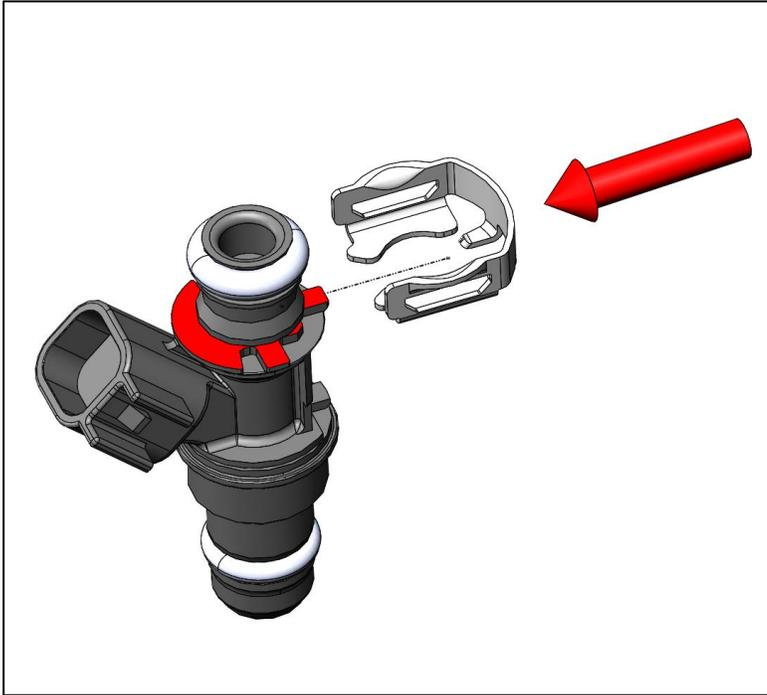

Figure 2
14. Insert the retaining clips removed in step 9 into the grooves on each injector (**Figure 2**).